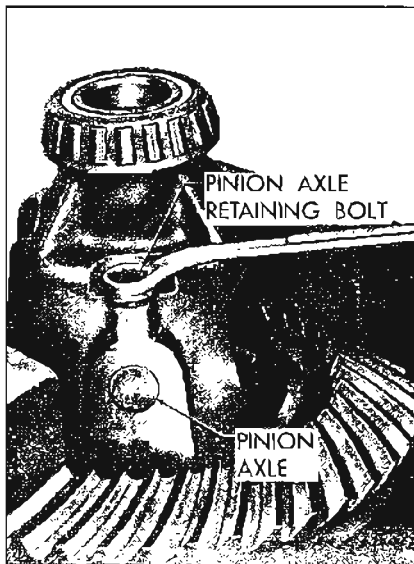

Figure 6-13—Removing Pinion Axle Retaining Bolt
2. Remove bolt that retains differential pinion axle. See Figure 6-13. Remove differential pinions, side gears and thrust washers from case.